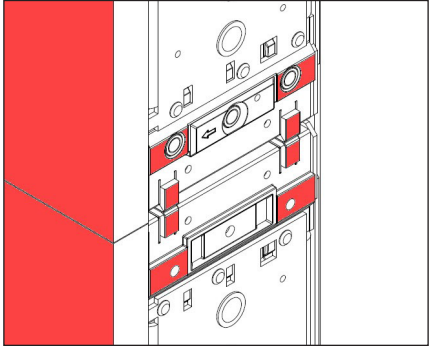
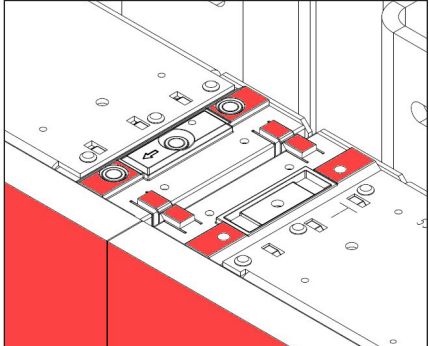

Figure 9: Inspect Corner Blocks
Figure 10: Inspect Corner Blocks
- 8. Inspect the corner blocks and module faces on the installed sections to ensure the faces shown in Figure 9 and Figure 10 are flush and aligned.
- Inspect the corner blocks on the installed section to ensure the faces shown in **Figure 9** and **Figure 10** are flush and aligned. Additional M6 corner block bolts can be added if required to close the cabinet seam.
- Inspect the corner blocks on the installed section visually to ensure the faces shown in **Figure 9** and **Figure 10** are flush and aligned. Additional M6 corner block bolts can be added if required to close the cabinet seam.